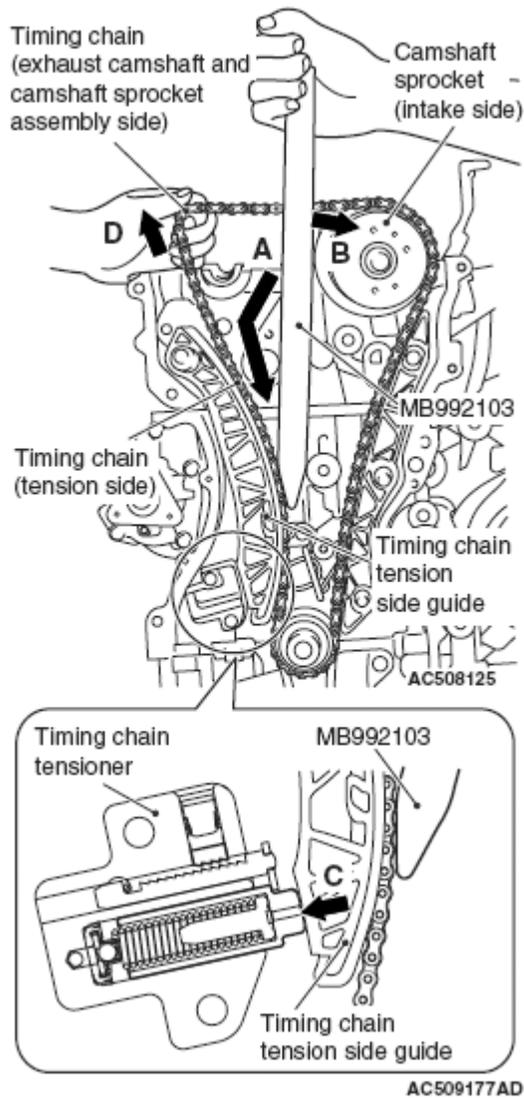

Fig. 54: Inserting Special Tool MB992103 Inside Timing Chain Case Assembly
3. With the timing chain tensioner unlocked, insert special tool MB992103 inside the timing chain case assembly along the tension side of the timing chain until the insertion guide line aligns with the upper surface of the timing chain case assembly ("A" in Fig. 54.)
4. With the special tool inserted up to the insertion guide line, press the special tool MB992103 against the intake side camshaft sprocket ("B" in **Fig. 54**) and spread and hold the timing chain tension side guide ("C" in **Fig. 54**.)
6. Pull up the camshaft and camshaft sprocket assembly (exhaust side) mounting area of the timing chain ("D" in **Fig. 54**) to provide allowance for easy installation of the camshaft and camshaft sprocket assembly (exhaust side) to the timing chain.